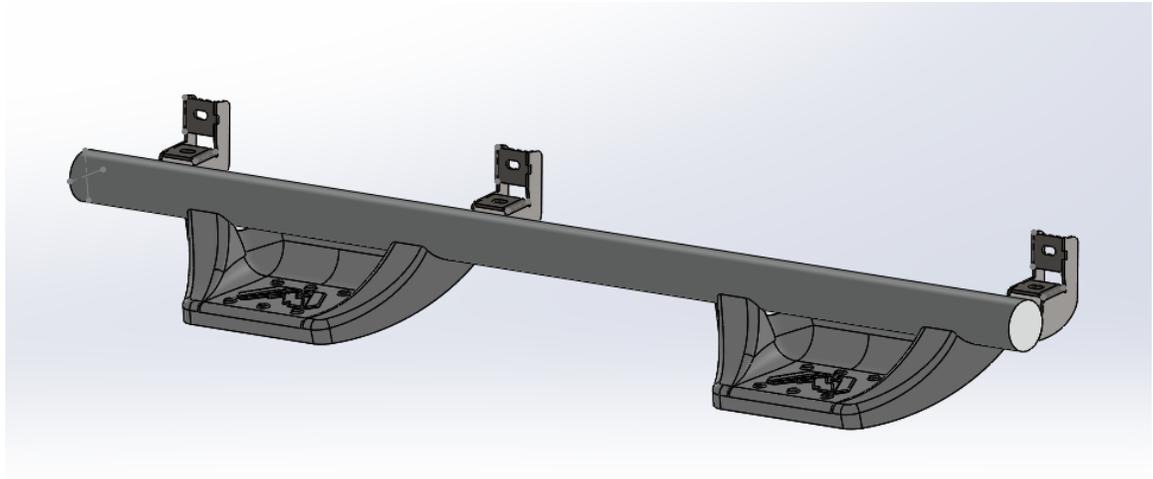

Figure 2 - DRIVER SIDE FABFOURS SIDE STEP
- 4) Identify the drive side Fab Fours Side Step. The drive side Fab Fours Side Step is shown in Figure 2 - DRIVER SIDE FABFOURS SIDE STEP.